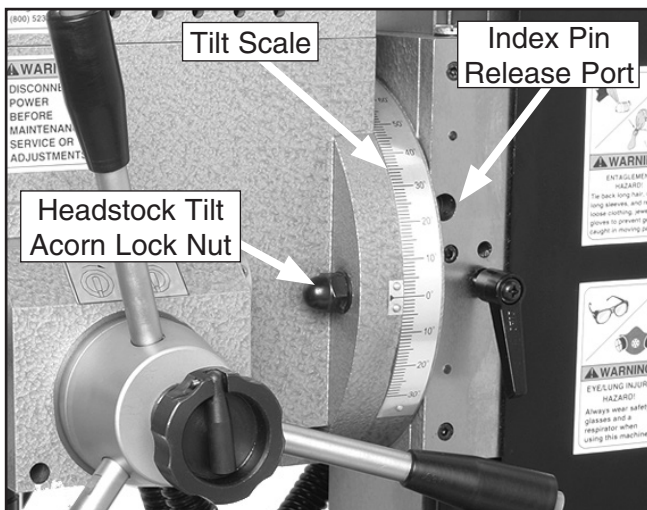

Figure 16. Headstock tilt controls.
2. Using a 17mm wrench, loosen both headstock tilt acorn lock nuts (**Figure 16**).
3. Insert a 6mm hex wrench into the index pin release port (**Figure 16**), and turn the hex wrench clockwise to disengage the spring-loaded index pin from the headstock.